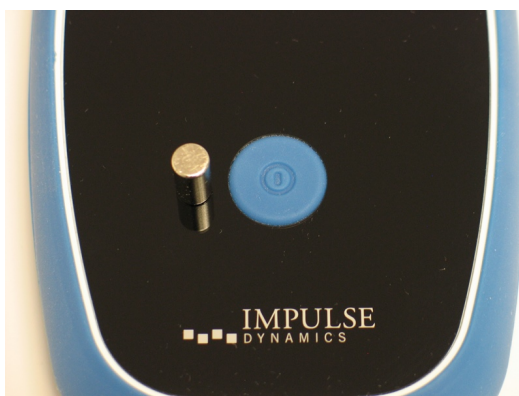

Figure 76: Pairing Magnet on Vesta Charger
2. Place a pairing magnet (or a standard pacemaker magnet) to the left of the **Power Button** on the Vesta Charger. **See Figure 76.**